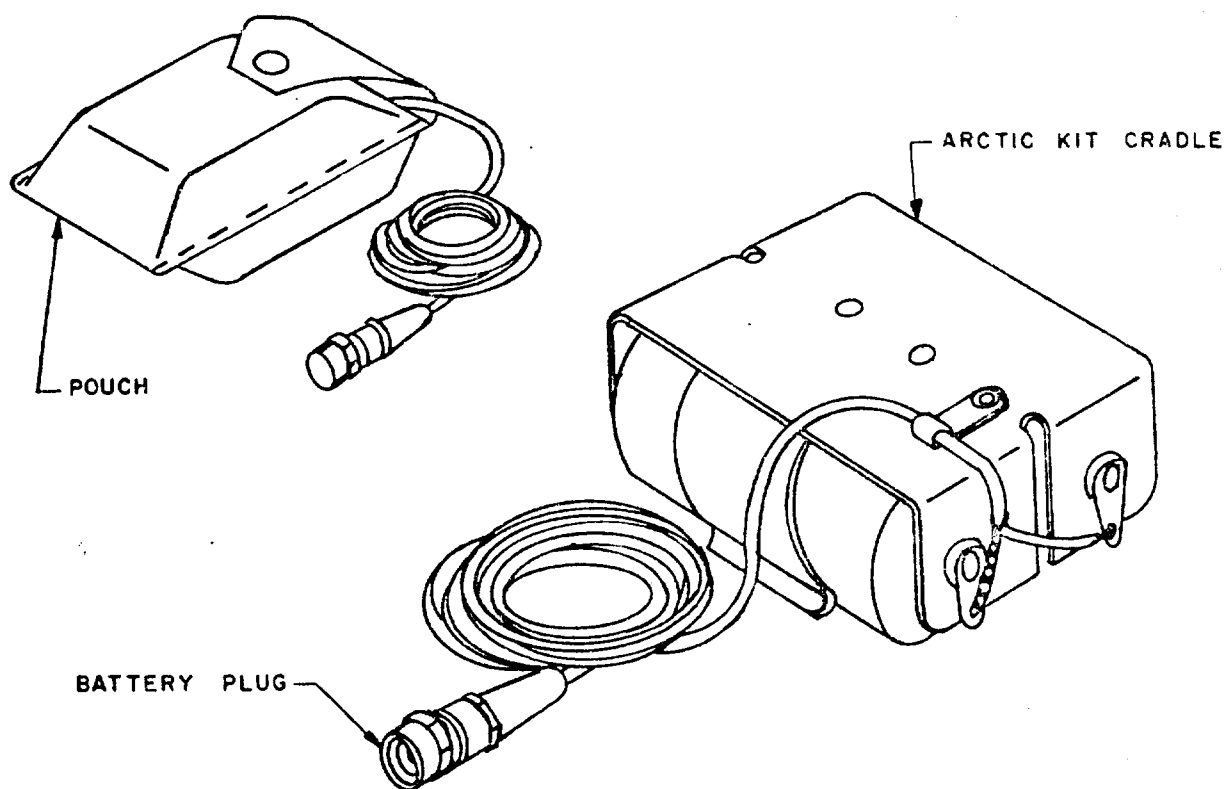

FIGURE 4-7. ARCTIC BATTERY KIT.
STEP 1. Remove Arctic Battery Kit from pouch (See Figure 4-7).